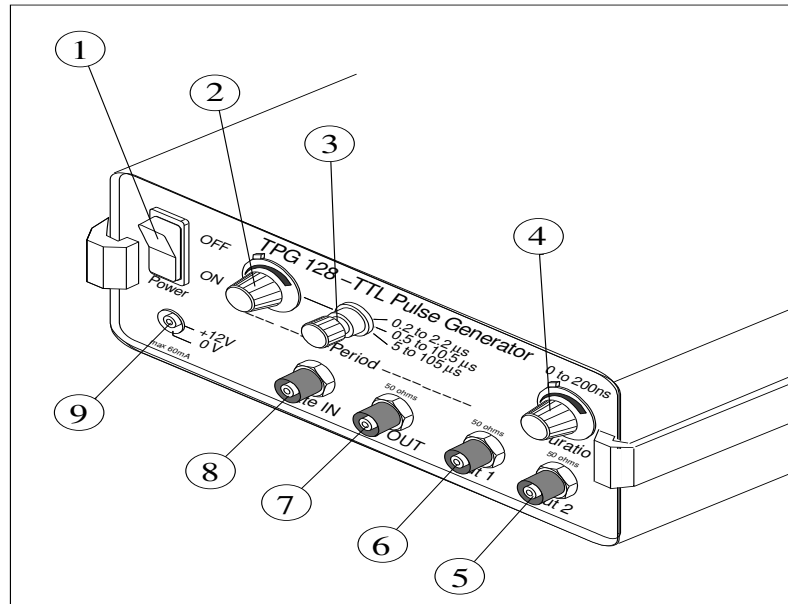

Figure 5.4.: TPG front panel.
The front and rear panels of the TPG are shown in figure 1.12; a detailed view of the front panel is shown below in figure 5.4.
The pulse duration can be set from 0 to 200ns and the interval between pulses from 200ns to 105  $\mu$ s in 3 ranges; using the (2), (3) and (4) knobs shown in figure 5.4.
- (1) Power ON/OFF switch
- (2) Pulse period fine potentiometer (10 turns)
- (3) Pulse period range switch (3 positions)
- (4) Pulse duration potentiometer (10 turns)
- (5) BNC 50 $\Omega$  TTL Output
- (6) BNC 50 $\Omega$  TTL Trig OUT
- (7) BNC 50 $\Omega$  TTL Trig IN
- (8) BNC 50 $\Omega$  TTL Gate IN
- (9) CPL cable Lemo 00 12VDC output connector
The TPG can be operated in internal or external mode; the mode is selected with a switch on the rear panel of the TPG, as shown in figure 1.12. The input and output signals are provided or generated through the four BNC connectors shown in figure 5.4: